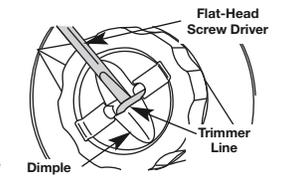

Fig. 20
2. Using a flat-head screwdriver, insert the tip into the line dimple and just under the exposed portion of the line (Fig. 20).